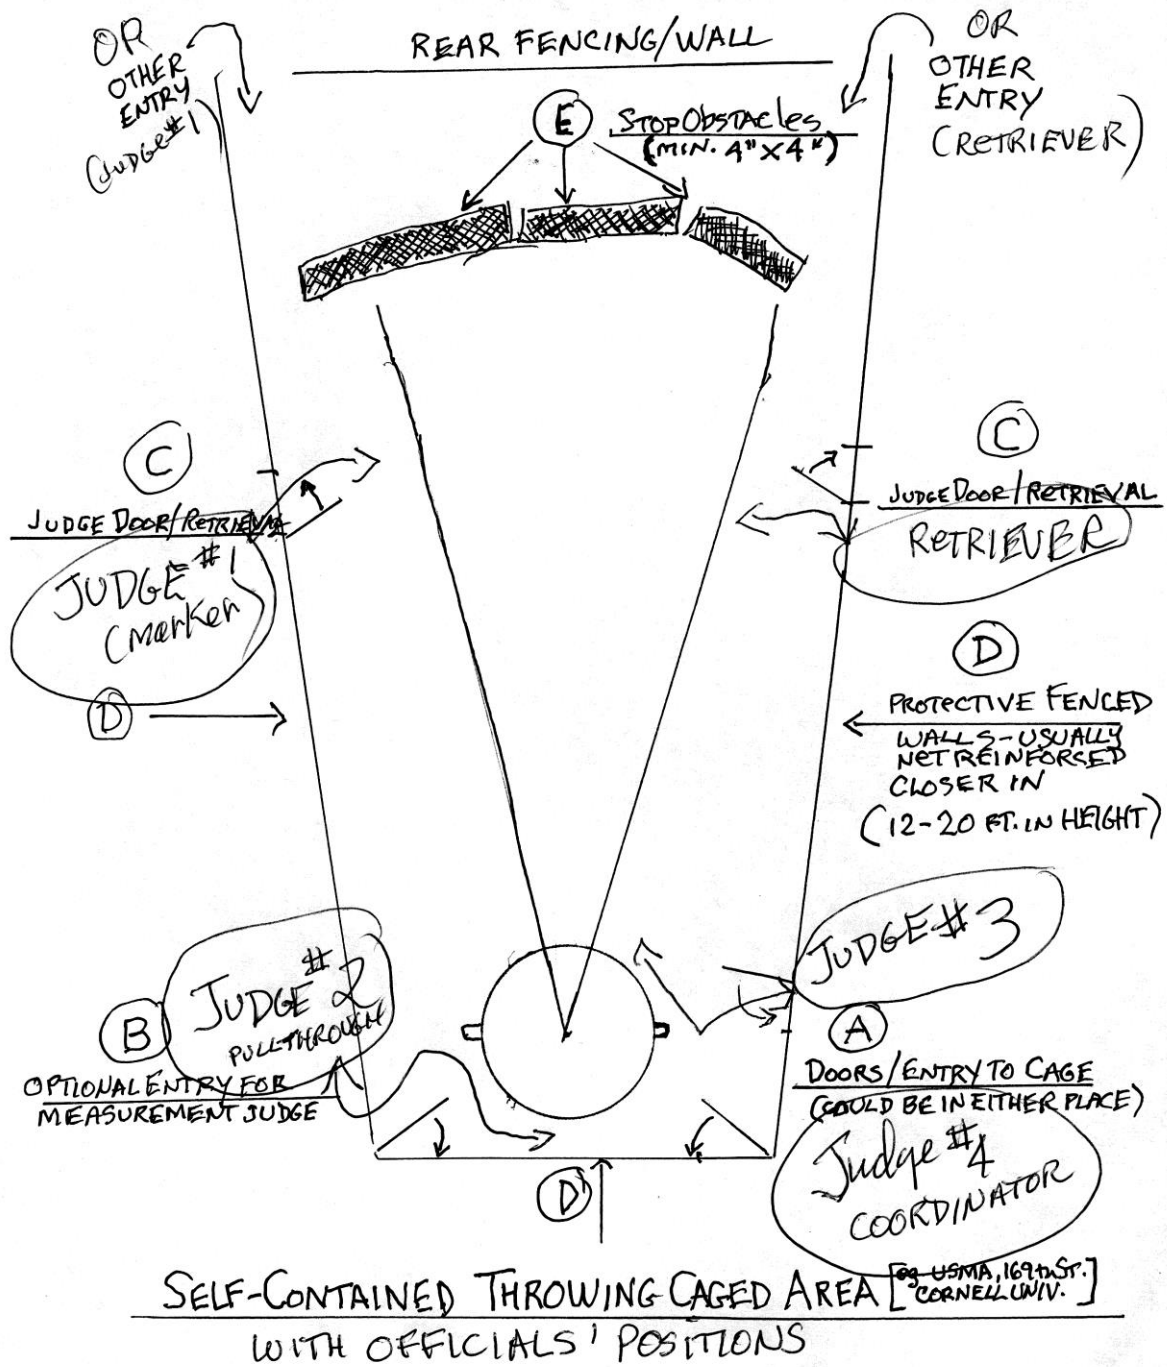

Figure 3
6. How this system is deployed is illustrated in **Figure 3** below